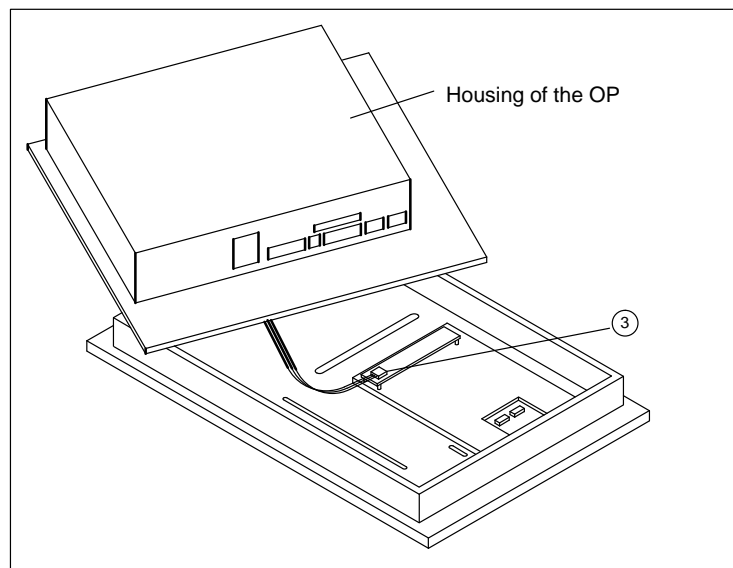

Figure 15-4 OP35: Opening the housing of the OP (laying the housing aside)
5. Disconnect connector ③ (see figure 15-4).